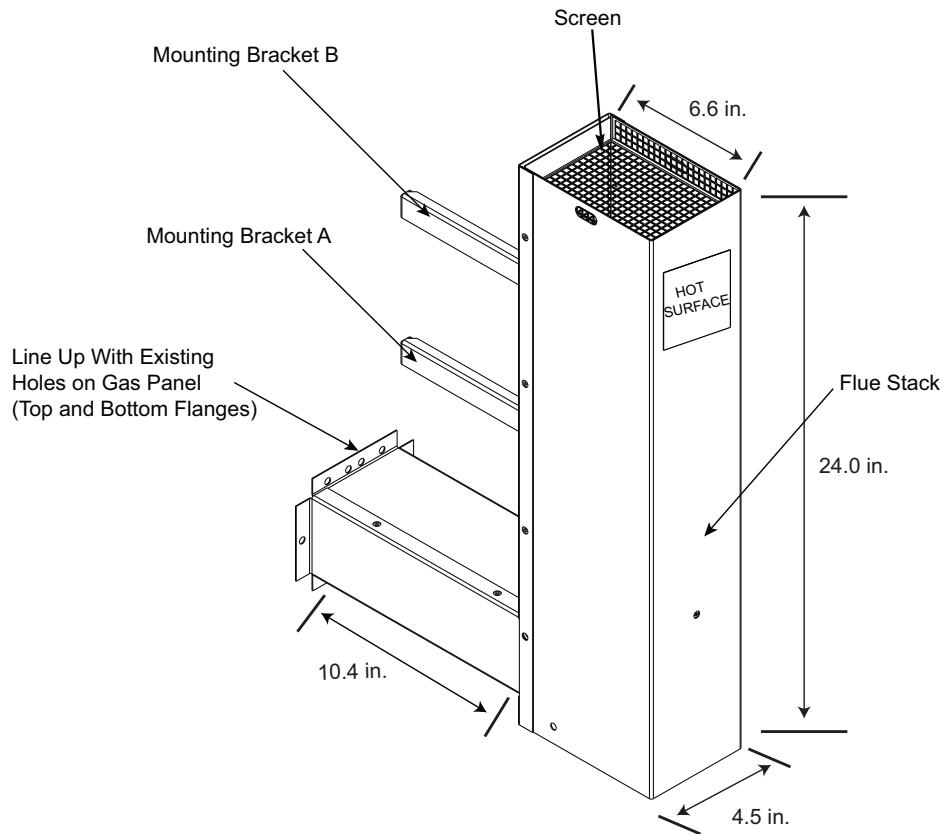

Fig. 1 — Flue Discharge Deflector Assembly
2. Attach mounting brackets to flue stack. (See Fig. 1.)
Bracket A — Position as shown in Fig. 1. Remove third screw from top of flue stack and save. Fasten the bracket to the flue stack with screw that was just removed. The bent portion of the bracket should be pointed away from the installer.
Bracket B — Position as shown in Fig. 1. Remove second screw from the top of flue stack and save. Fasten the bracket to the flue stack with screw that was just removed. The bent portion of the bracket should be pointed away from the installer.